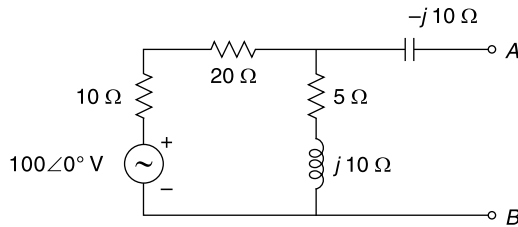

Fig. 6.21 Circuit of Ex. 6.20
6.20 What is the Thevenin's equivalent circuit with respect to the terminals A and B of the circuit shown in Fig. 6.21.